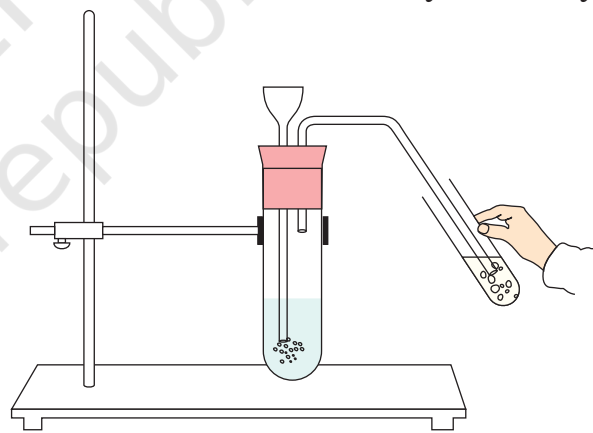

Fig. 9.1 : Carbon dioxide gas formed by the reaction of dil/hydrochloric acid on washing soda or baking soda is being passed through lime water
5. For performing lime water test, take the solution of test tube A in a boiling tube and set up the apparatus (delivery tube, thistle funnel etc.) as shown in Fig. 9.1.